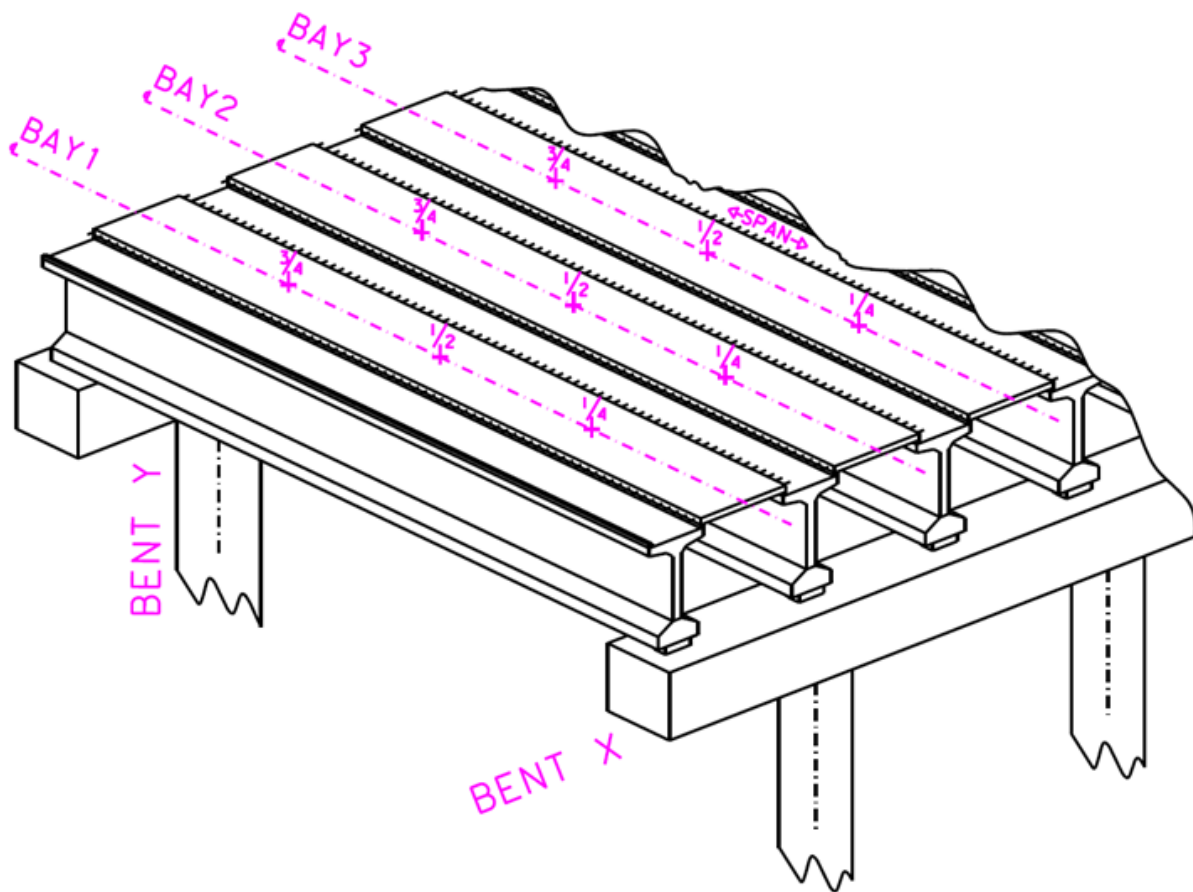

Figure 1—Slab Depth Check Locations per Span
- 5.1 Take a minimum of three concrete thickness and steel depth readings per bay as shown in Figure 1. The total number of readings per span will depend on the width of the bridge. Direct the contractor to stop the screed, if necessary, at the locations shown, and take the readings at or behind the screed and before any evaporative retarder or cure is applied. Do not take measurements for depth over a beam or girder.
Note: The reading locations shown in Figure 1 are minimums. Additional readings at critical points where cover or concrete depth may be reduced, such as panel edges, cross-slope breaks, and transitions, may provide valuable information. While performing dry-run inspection, record the location and measurements of critical points and then verify cover and concrete depth during placement.